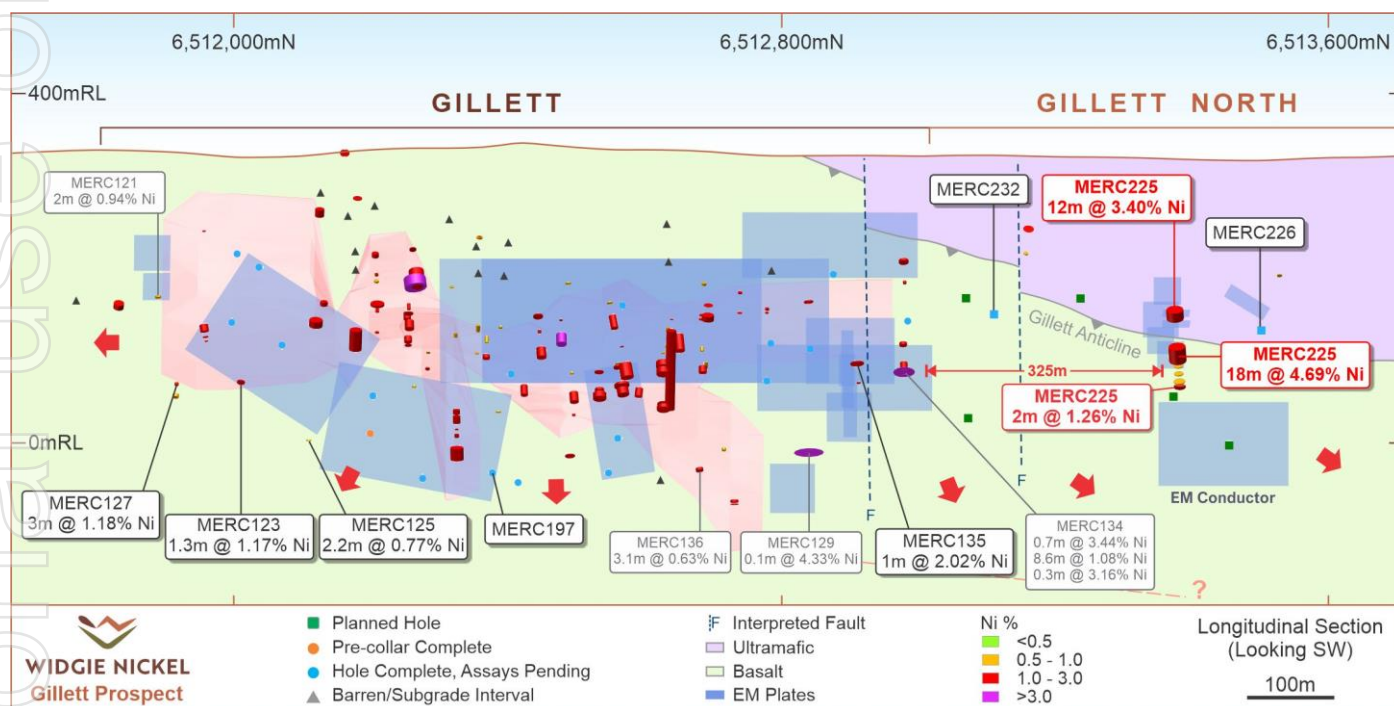
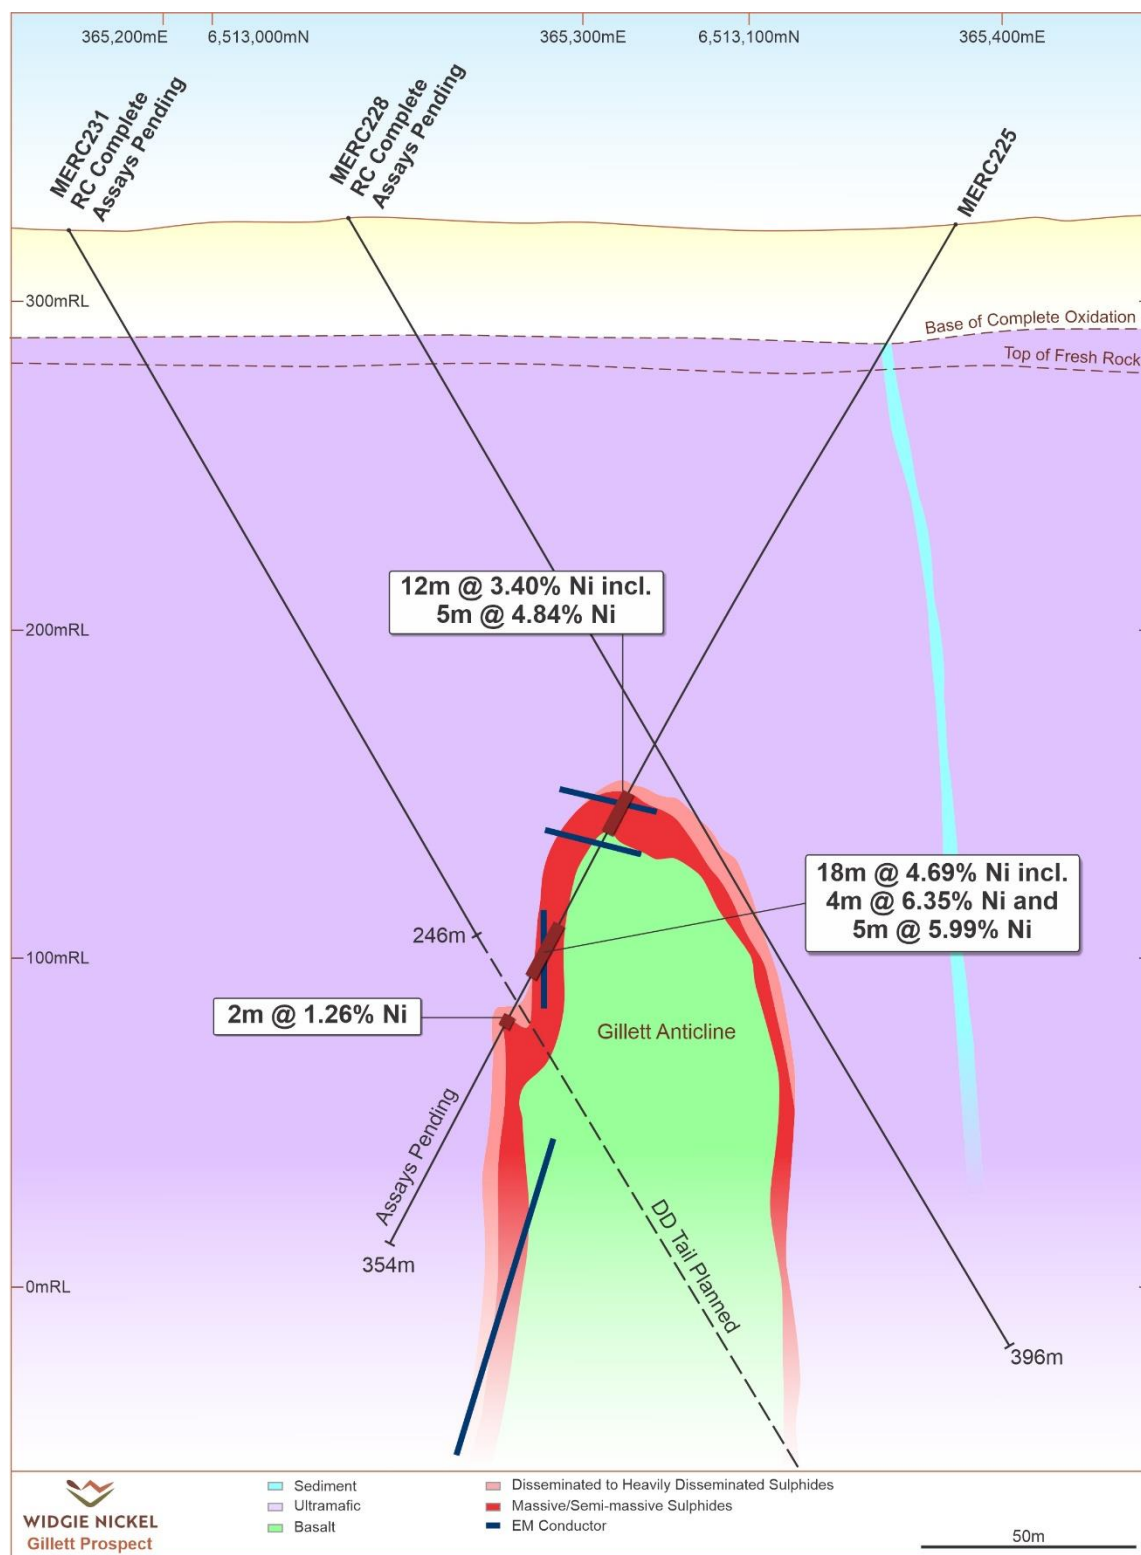
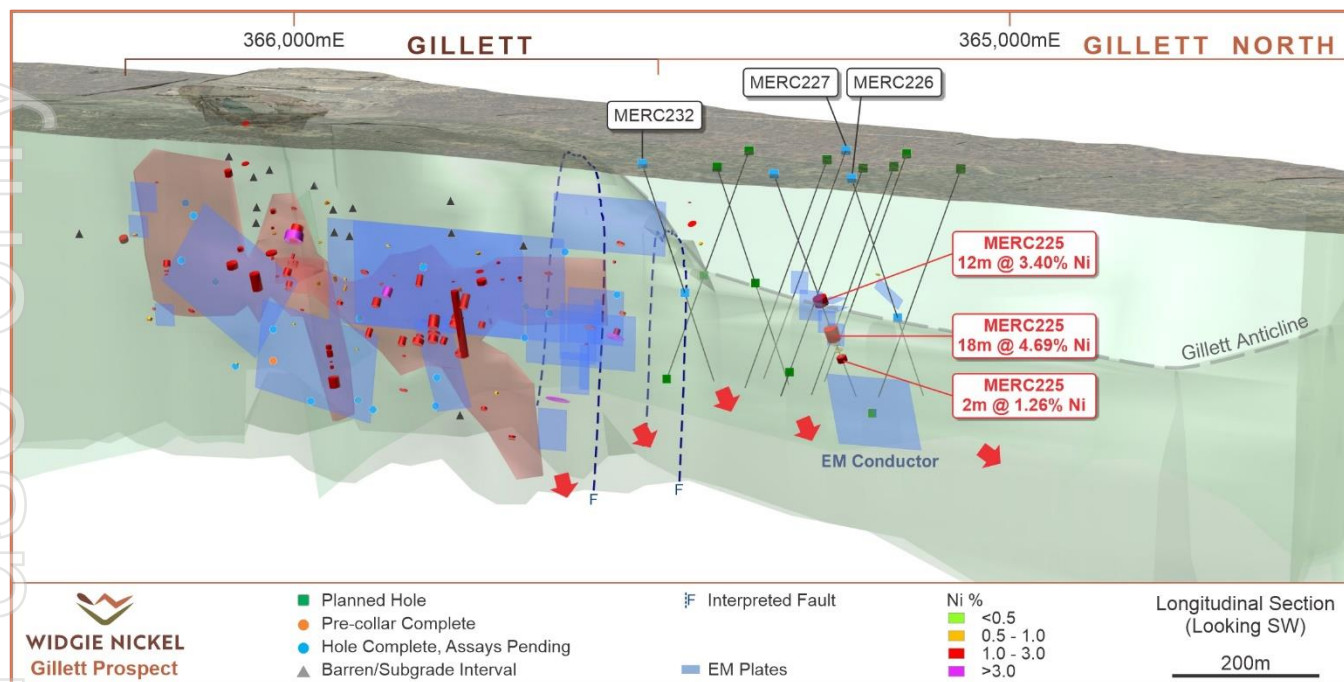

Figure 2 – Oblique long section looking south-west showing Gillett Mineral Resource, MERC225 and DHEM conductors
Figure 3 – Gillett North cross-section (looking NW), showing RC hole MERC225 and intercepts
Figure 4 – Oblique 3D view (looking south) showing the basalt footwall, DHEM conductors and additional drilling
Widgie Nickel Limited (ASX: **WIN**, "**Widgie**" or "**the Company**") is pleased to announce that the assays have been received for RC percussion hole MERC225 at the Gillett North target (refer ASX announcement 30 May 2022 - *Exploration drilling discovers new mineralisation at Gillett North*) confirming high-grade, thick massive nickel sulphides and disseminated sulphides across two intervals in a blind basal contact position (*Figure 2*).
south-east of hole MERC226. This highly conductive body in particular is significant in that it has a conductance of ~10,000 siemens which is indicative of a potential massive sulphide body (*Figure 2 and Figure 4*).
In addition, assays have been received for the Reverse Circulation (RC) and Diamond (DD) extensional and infill drilling programs carried out on the Gillett mineralisation (*Figure 2, Table 1 and Table 2*). The results continue to support Widgie's production aspirations, with a re-estimation of the Gillett Mineral Resource expected in the September 2022 quarter.
The basalt footwall and ultramafic host unit within the Gillett to Widgie Townsite corridor has been tightly folded to produce a north-west plunging anticlinal structure. It is interpreted that all positions on the anticline have the potential to host nickel sulphide mineralisation. The nickel sulphides intersected in hole MERC225 (*Figure 2*) represents an extension of the Gillett nickel sulphide resource in a blind position approximately 150 to 200 metres below surface.
The three distinct mineralised zones observed in MERC225 are hosted within an ultramafic unit and are separated by a zone of mafic rock (*Figure 2*). As indicated in *Figure 3* below, the drillhole has been interpreted to have been drilled in or near the hinge zone of an anticlinal (fold) structure. The fold structure presents a repetition of the same basal contact of an ultramafic unit overlying a mafic basalt unit (*Figure 4*). The fold has been interpreted to be plunging shallowly to the north-west, and MERC226 has therefore been drilled in poorly or unmineralised ultramafic rock above the fold hinge (*Figure 3*).
Downhole electromagnetic surveys (DHEM) have been completed on nine holes at Gillett and two holes (MERC225 and MERC226) at Gillett North. The surveys have detected multiple conductive bodies associated with nickel sulphides at Gillett and Gillett North. DHEM completed on MERC225 and MERC226 at Gillett North have identified a very strong conductive body of ~10,000 siemens which is indicative of a massive sulphide body (*Figure 2 and Figure 4*). Diamond drilling will be planned to intersect this conductive body in the forthcoming weeks.